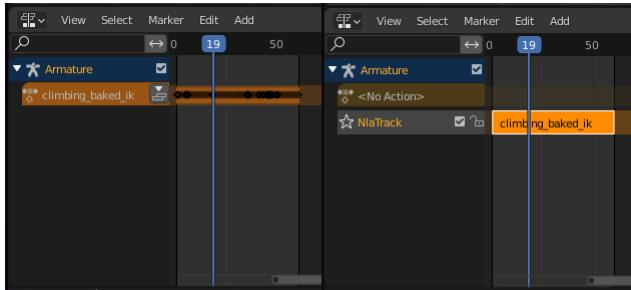

Figure 12-8 The Nonlinear Animation Editor
8. In order to make an action strip which can be repeated a number of times change the editor type to Nonlinear Animation. This view has a different section for each animated object in the scene, and each section has a list of actions in orange, for this scene there is just one object and one action. On the left of Figure 12-8 you can see that there is a button; Push Down Action that will convert the action to a strip as shown on the right of Figure 12-8, press that now for the climbing_baked_ik action.